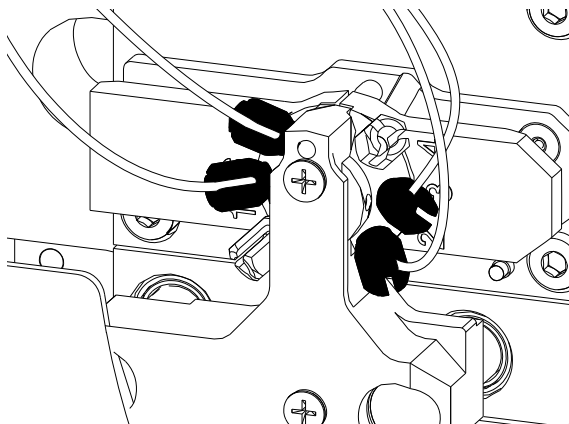

Figure 45
- 5 Loosen the slotted PEEK fitting using the Cube wrench and pull the capillary out. See Figure 45.